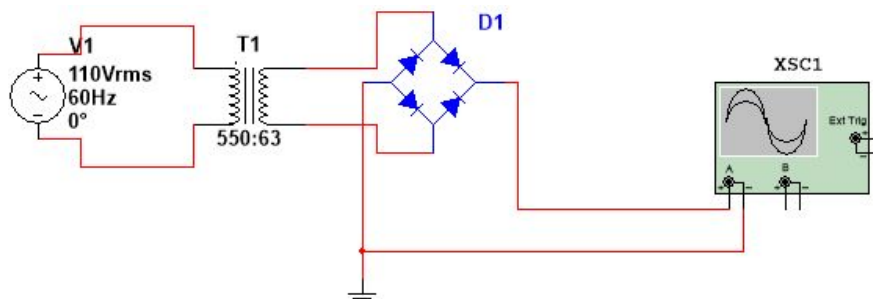

Figure 1-3
4. Next, a W01M bridge rectifier was connected to the transformer as shown in Figure 1-3.